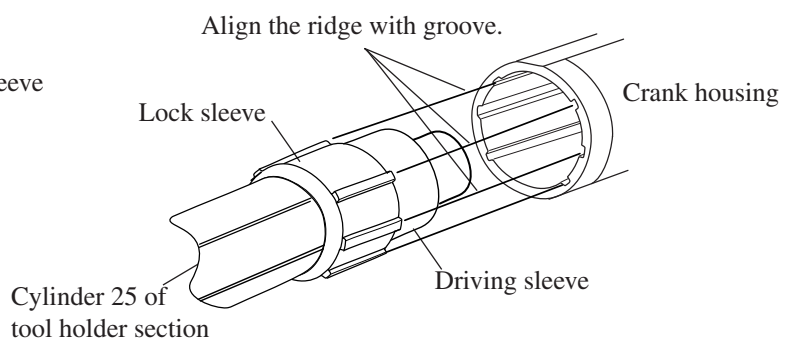

Fig. 23A
- (2) Insert tool holder section into crank housing with aligning the ridge of lock sleeve to the groove of crank housing as illustrated in Fig. 23A.